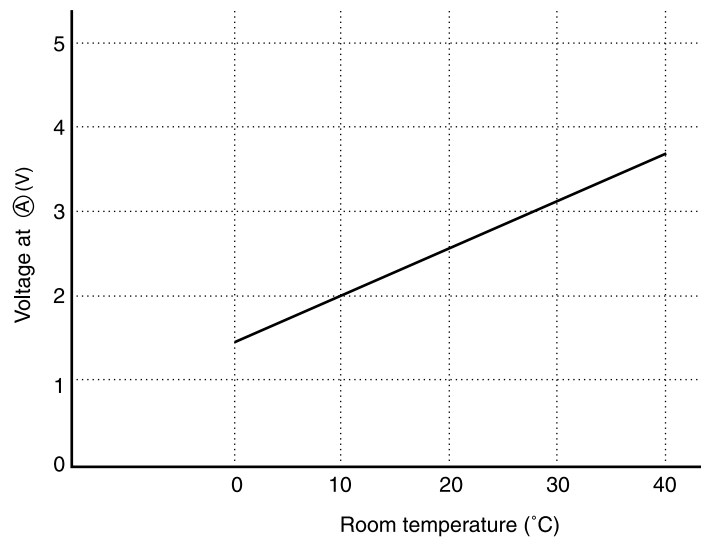

Fig. 5-2
- The voltage at (A) depends on the room temperature as shown in Fig. 5-2.